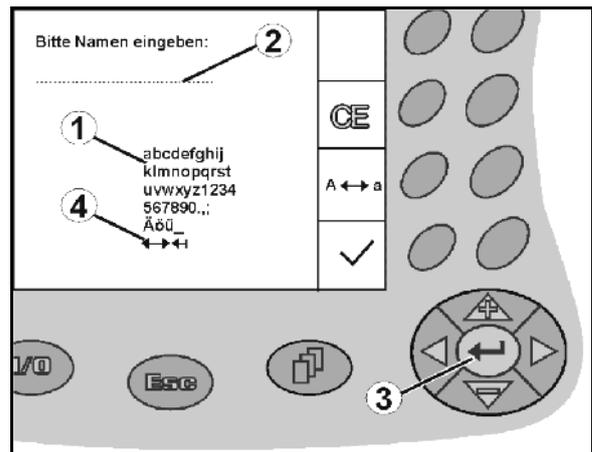

Fig. 12
If it is necessary to enter texts or numbers on the AMATRON⁺, the input menu (Fig. 12) appears.
In the lower part of the display, a selection field (Fig. 12/1) appears with letters, numbers and arrows which can be used to compose the input line (Fig. 12/2).
Choose letters or numbers in the selection field (Fig. 12/3).
- Confirm the selection (Fig. 12/3).
The arrows in the selection field (Fig. 12/4) allow movement in the text line.
The arrow in the selection field (Fig. 12/4) deletes the last entry.